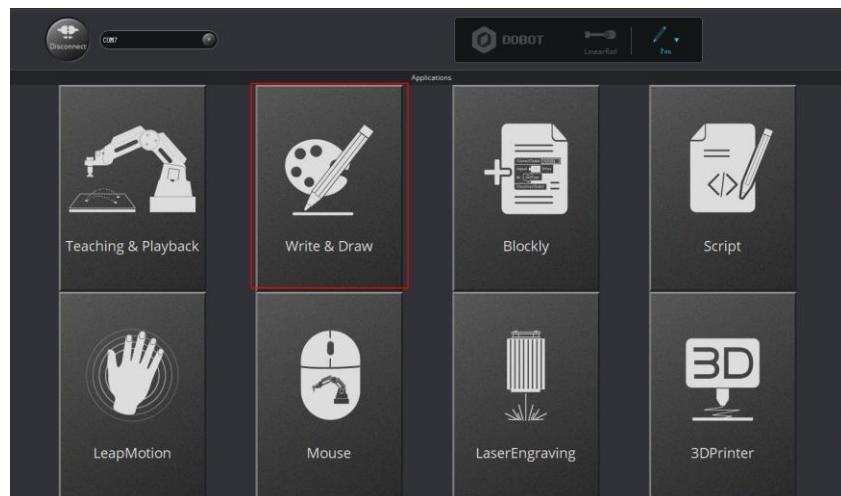

Figure 5.42 Click Write & Draw
**Step 3** Click **Write & Draw**, as shown in Figure 5.42.